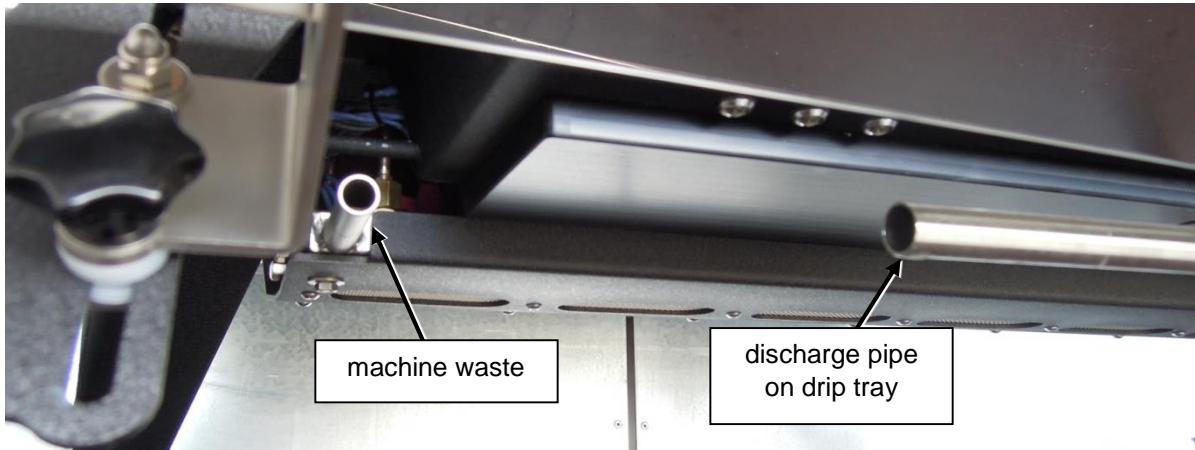

Figure 11. Spirit seen from bottom front without hoses attached to the machine-waste and drain pipe on the drip tray.
1. Position the stainless steel hose clamp on one end of the discharge hose. Slide the end of the hose over the machines waste-pipe (see Figure 11) and tighten the hose clamp.